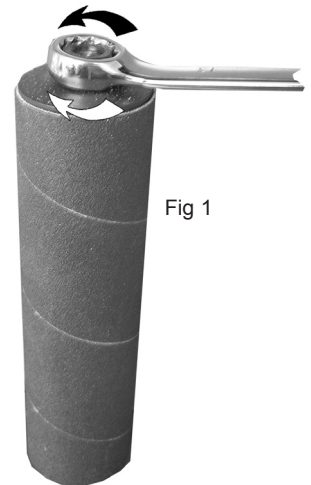

Fig 1
- 3.2.1. Undo the nut (Fig 1) securing the sandpaper cylinder. Note! It has a left-hand thread.